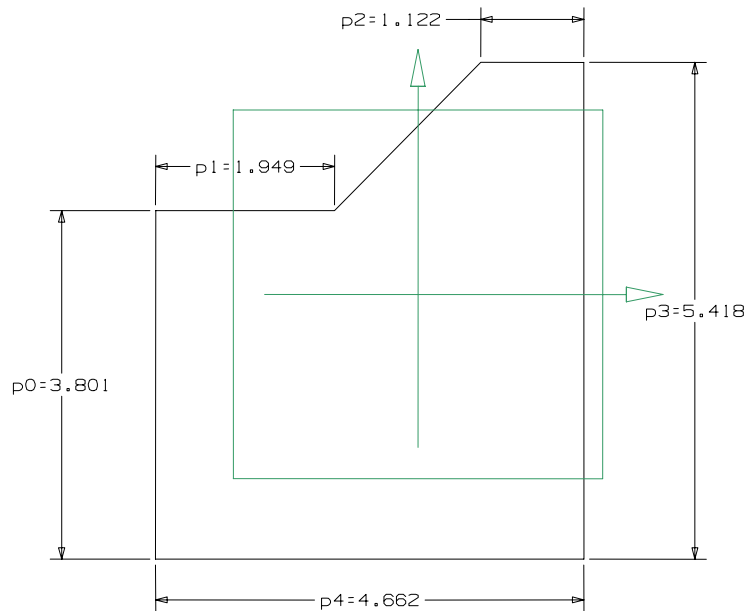

Figure 13
- Create dimensions similar to those shown in Figure 13.